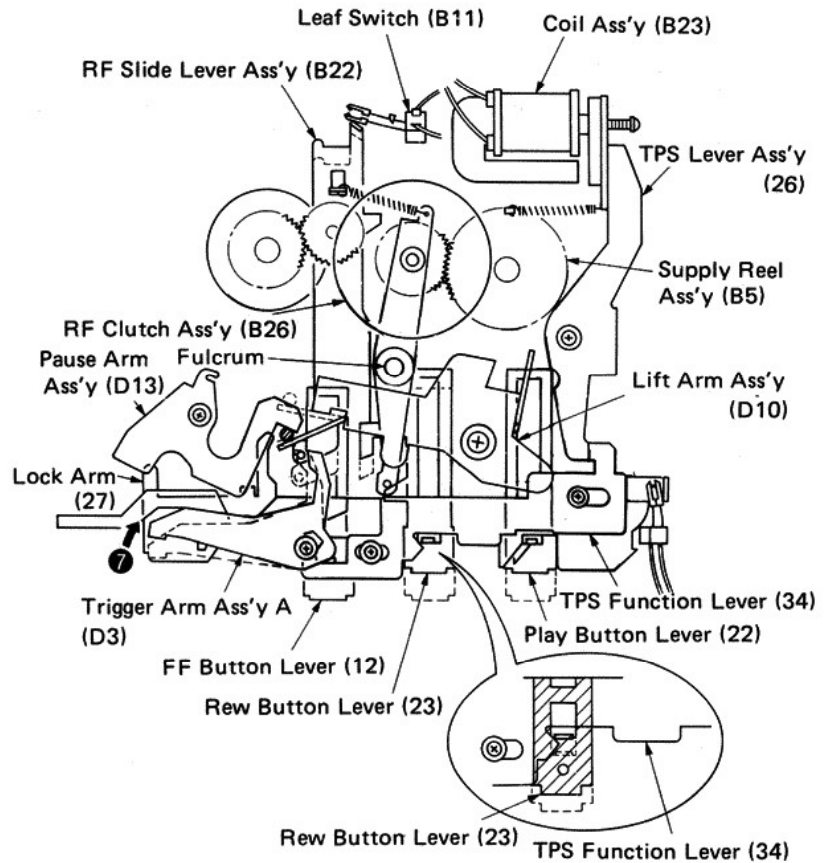

Fig. 28
- **Status Change into REW TPS Mode: (Fig. 28)**
- 2 When the leaf switch (B11) is turned on, the tape output is muted. Since a current flows in the coil assembly (B23), the TPS lever assembly (26) and the TPS function lever (34) are held. Consequently the rewind button lever (23) maintains the pressed condition.
- 4 The gear of the RF clutch assembly (B26) meshes with that of the rewind button lever (23) and the mechanism assumes the REW TPS mode. (Fig. 28)